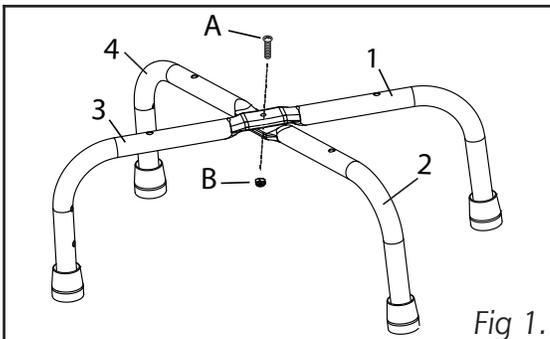

Fig 1.
- ▶ 1. In the upright position, crisscross the leg assemblies so the center flattened areas are flush. The legs labeled (1) and (3) should be on top. Be sure the legs numbered 3 and 4 are on the same side. Insert the 7/8" Base Screw (A) through both leg assemblies and secure with a Nut (B) as shown in Fig. 1. Using a Philips head screwdriver, tighten the screw.